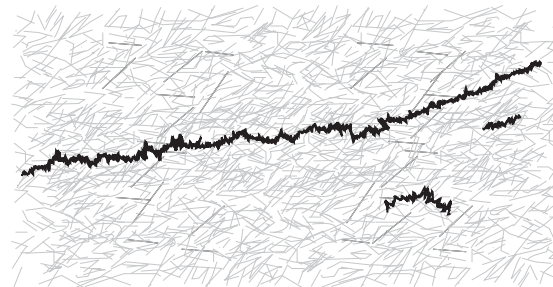
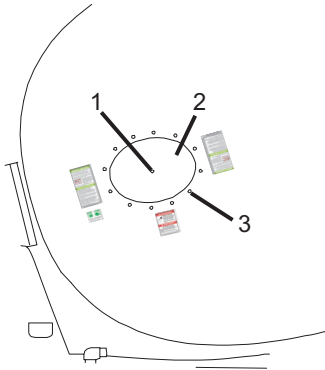

Figure 12
Figure 15
3. Remove the center socket-head cap screw (Figure 15, Item 1), and install a T-bolt to act as a handle when removing the drum hatch (Figure 15, Item 2).
4. Remove 12 drum hatch bolts (Figure 12, Item 3), and remove the drum hatch (Figure 15, Item 2).